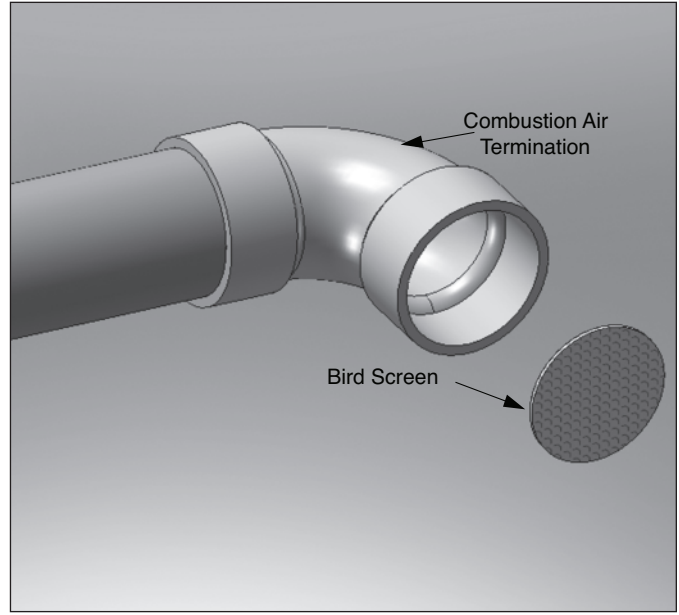

Fig. 19: Horizontal Combustion Air Bird Screen Installation with 90° Elbow Termination
1. The vent and combustion air terminations must include a factory supplied "bird screen" installed as shown in Fig. 4 page 14 & Fig. 19 page 21.